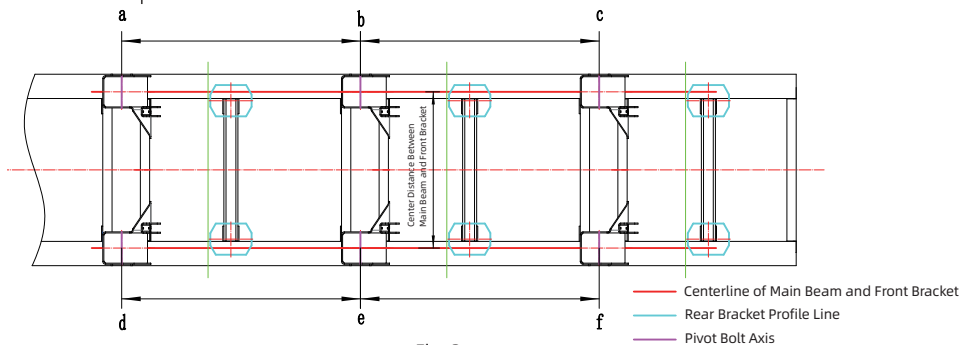

Fig. 2
② For fully assembled air suspension (pivot bolt and shock absorber bolt nuts inserted but not tightened), remove the pivot bolt, front bracket and shock absorber before starting from this step(2).
(3) Place the 1st and 3rd axle front brackets, measure the AB line to ensure  $ab=de\pm 1\text{ mm}$ ,  $bc=ef\pm 1\text{ mm}$ ,  $ae=bd\pm 1\text{ mm}$ ,  $bf=ce\pm 1\text{ mm}$ (*Fig. 2*). Tack weld all front brackets in place.